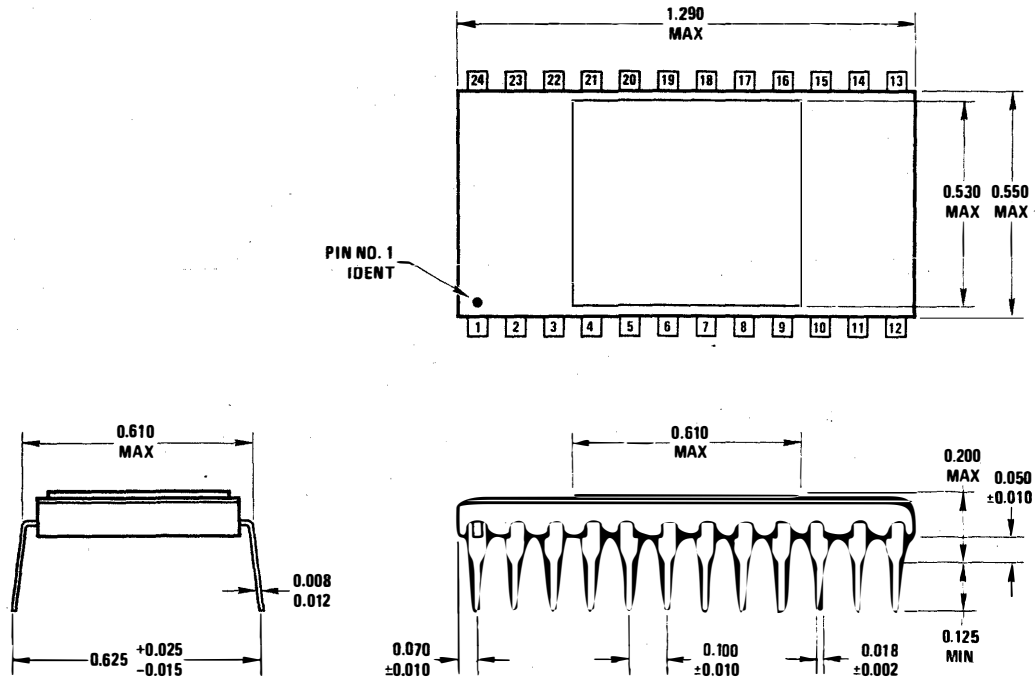

**FIGURE 4. CROM Signal Timing Specifications**
The timing specifications for all CROM signals are shown in Figure 4. These specifications apply over the complete range of recommended operating conditions. Time intervals are defined with respect to the 10% and 90% points of the four MOS clock inputs. The command outputs on the NCB bus become valid within the first 85 ns of the odd time intervals. These lines are driven to a logic zero within the first 85 ns of the even time intervals. The jump condition and flag address outputs on DI(0) - DI(3) become valid within the first 80 ns of  $T_1$  and remain valid for at least 10 ns after the 90% point at the end of  $T_1$ . Data inputs to all DI lines must be valid for at least the last 35 ns of  $T_7$  and must remain valid until the 10% point at the start of  $T_8$ . Timing for the remaining signals is similar. (Note that signals may not change state during "valid" time intervals.)